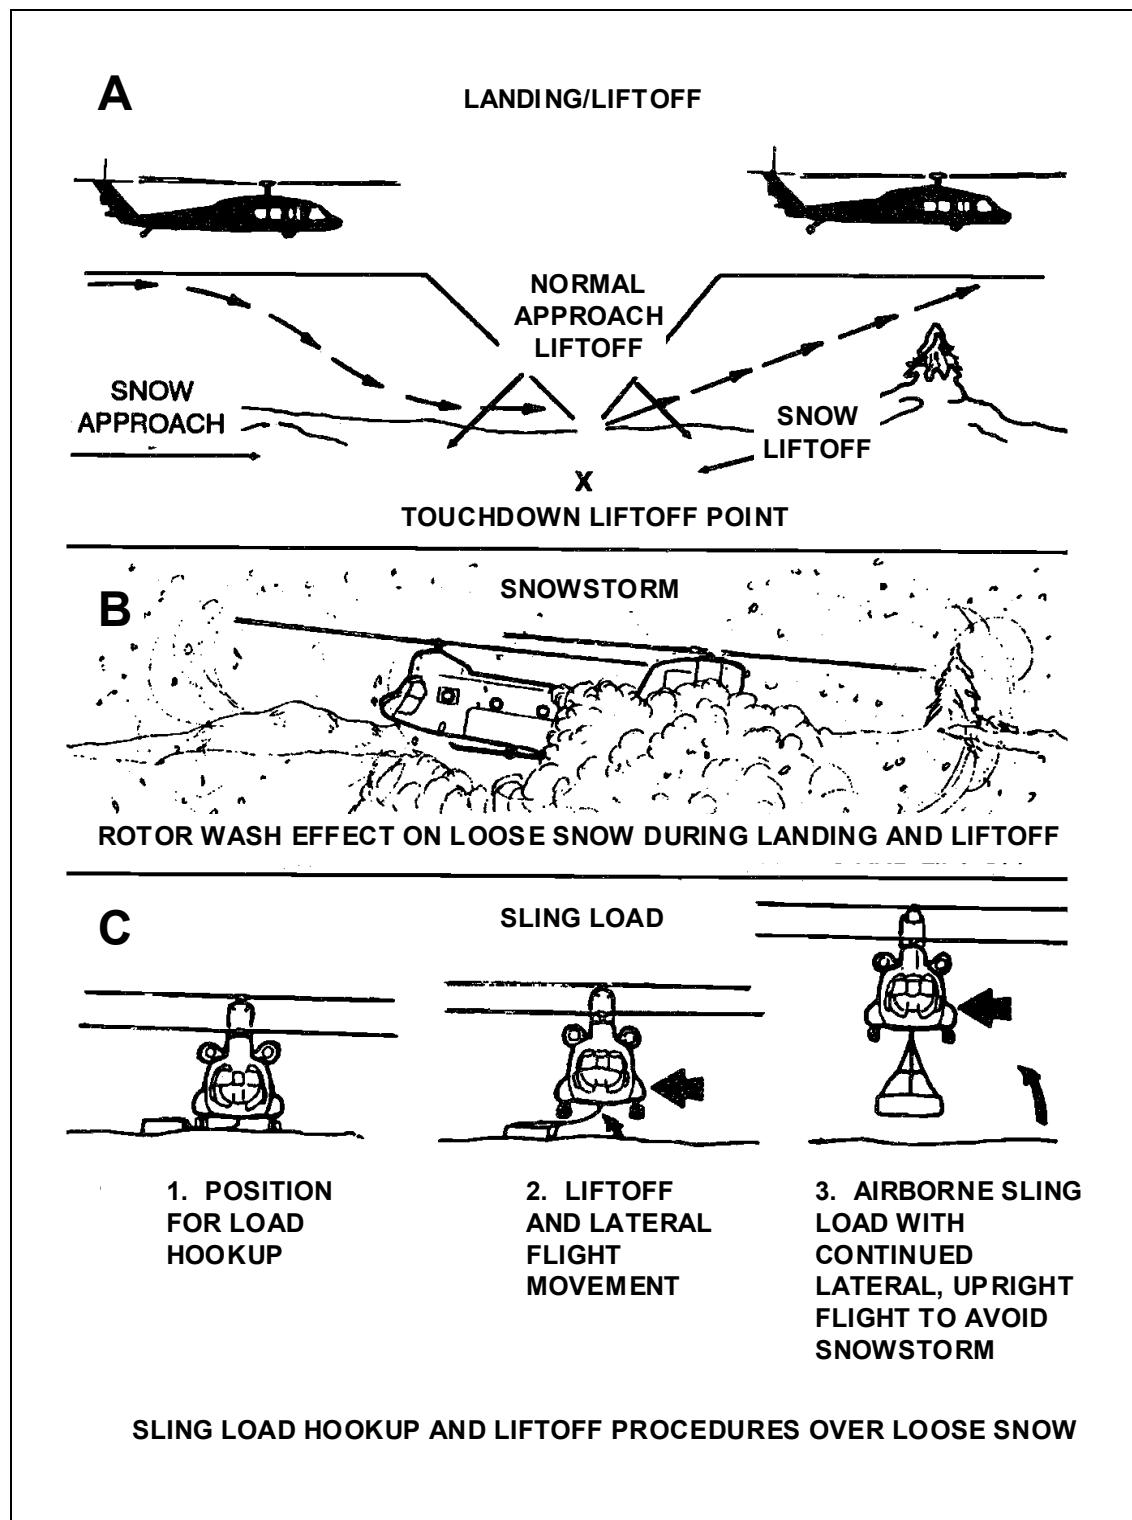

Figure 4-18. Lessening the effects of loose snow on the ground.
b. **Navigation.** In snow-covered areas with flat terrain, pilots may need marked and manned RPs. When aircraft fly over loose snow, the air movement lifts the snow and circulates it into a snow cloud. This often produces a zero-visibility condition known as "whiteout," through which the pilot must take off or land blind (Figure 4-18, page 4-26). Whiteout conditions place extra demands on the landing site party.
d. **Signalman.** The pathfinder leader positions any extra personnel to act as signalmen for aircraft approaching other touchdown points. While aircraft approach and land, he makes sure that signalmen remain in safe areas. Other signalmen should also control the loading of personnel on the aircraft, as instructed by the crew chief or the crew. The technique for landing on snow with a sling load resembles other types of approach, but the pilot hovers at a higher altitude because of the load (A, Figure 4-18, page 4-26). He has a hard time judging the height of the sling load (the height above the ground) as it nears the snow surface. He relies on a signalman to keep him informed. To
avoid building up a snow cloud, the pilot puts the load on the ground as fast as he can (B, Figure 4-18, page 4-26).
e. **Sling Load Operations.** The CH-47 requires a sling length of at least 60 feet. Other aircraft allow a shorter sling. Normally an aircraft hovers during hookup and liftoff with a sling load. Doing this above snow produces a snow cloud (B, Figure 4-18, page 4-26). The pilot must expect this and plan for it. In fact, when operating over snow-covered terrain, the pilot can use the most common technique—hovering the helicopter over the load while the ground crew attaches the sling to the hook—or not.
(1) The pilot can land to the left of the load, but close enough for hookup personnel to attach the sling to it.
(2) When ready for liftoff, the pilot initiates a slow, vertical ascent with enough lateral movement to position the aircraft over the load (C, Figure 4-18, page 4-26). He continues a vertical ascent until the load has cleared the ground and he has conducted a hover-power check. When the load clears the ground, the pilot begins accelerating, and continues to climb.